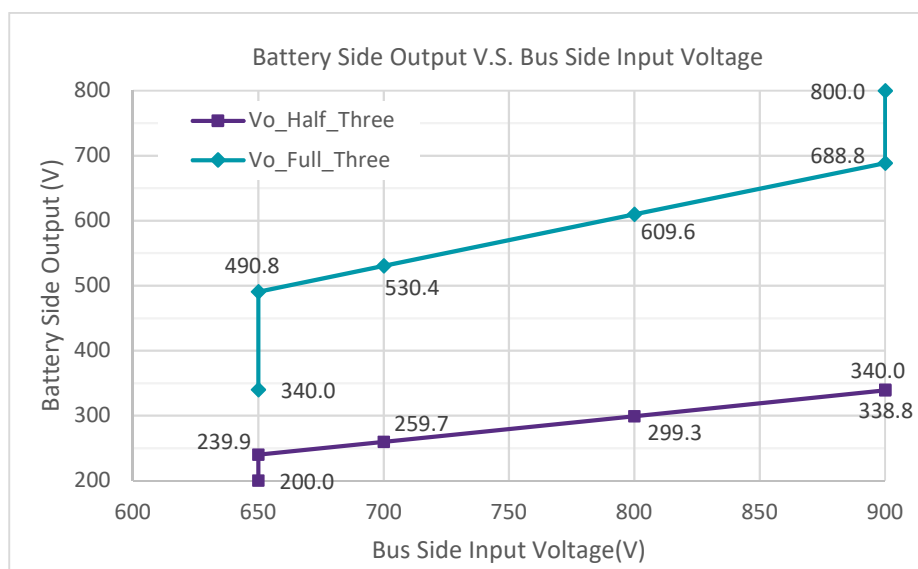
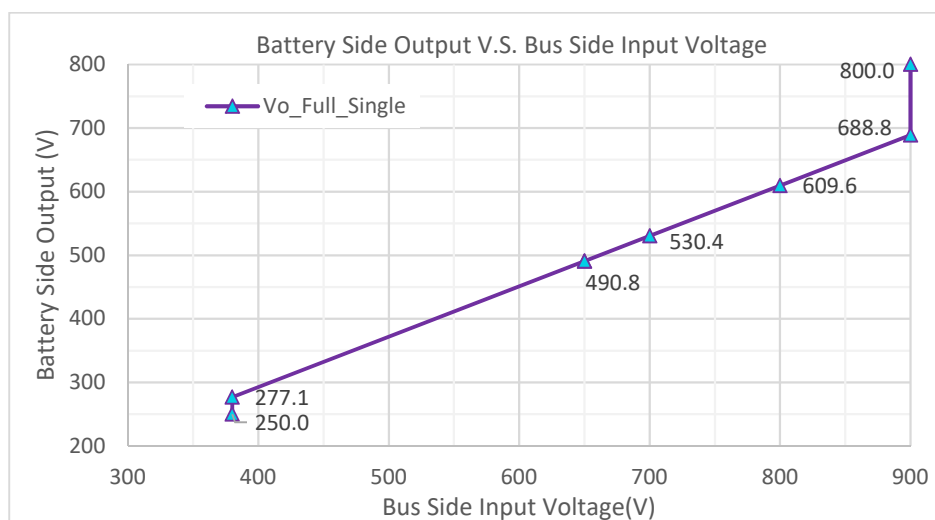
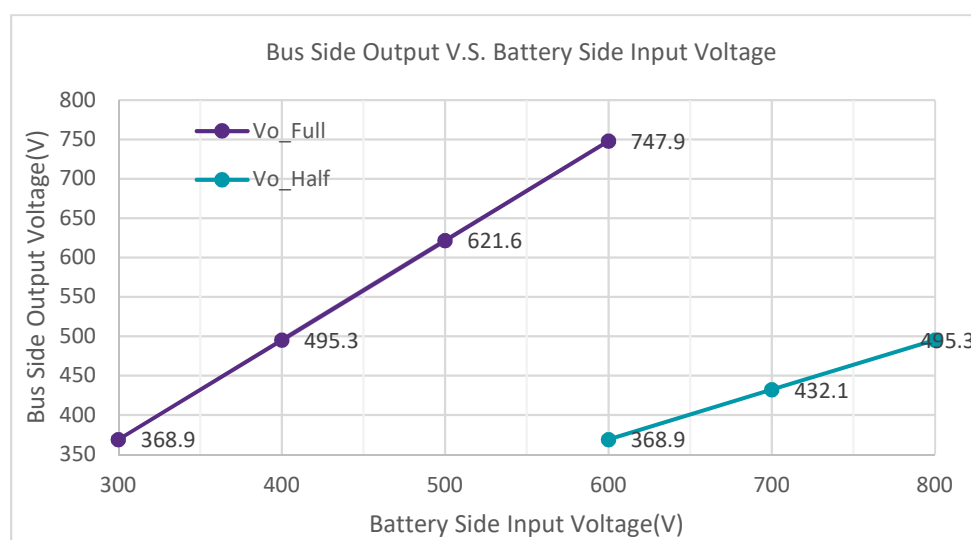

Figure 2: Battery voltage vs. bus voltage in charging mode for three-phase application
Figure 3: Battery voltage vs. bus voltage in charging mode for single-phase application
Figure 4: Bus voltage vs. battery voltage in discharging mode
The operation range of the evaluation board in charging mode is as shown in Table 1. The evaluation board is designed to support the DC bus voltage of a Power Factor Correction (PFC) with both single-phase input and three-phase input. In a typical application, the bus voltage (V_{DC1}) is regulated by the PFC stage according to the battery-side voltage. However, with a controlled PFC output, the output voltage at battery side (V_{DC2}) is regulated to maintain the same relation curve as shown in Figure 2 and Figure 3. This is to simulate the real conditions in the application. Equation (1) is for a full bridge and Equation (2) is for a half bridge configuration.
For discharging mode, the overall discharging operations are shown in Table 2. The output bus voltage is regulated, as shown in Figure 4, to enable high efficiency for both CLLC stage and DC/AC stages. Equation (3) is for full bridge and Equation (4) for half bridge. The start-up voltage is also calculated using the same equations.
A user should follow the operations as shown in Figure 2, Figure 3 and Figure 4 and not overload the converter out of the SOA (Safe Operation Area). Please refer to Table 8 in Section 6.2 of this User's Guide for protection details.
A GUI communicates to the unit via a controller area network (CAN) communication bus. It is used to display operational information and provide related user controls, such as the selection of power direction and topology. The output voltage and/or current with 380 VDC, 650 VDC and 900 VDC input can all be set according to Figure 2 and Figure 3 through CAN interface in charging mode. The output voltage is calculated based on the input DC voltage to enable high efficiency for other inputs in charging mode, or any inputs in discharging mode.